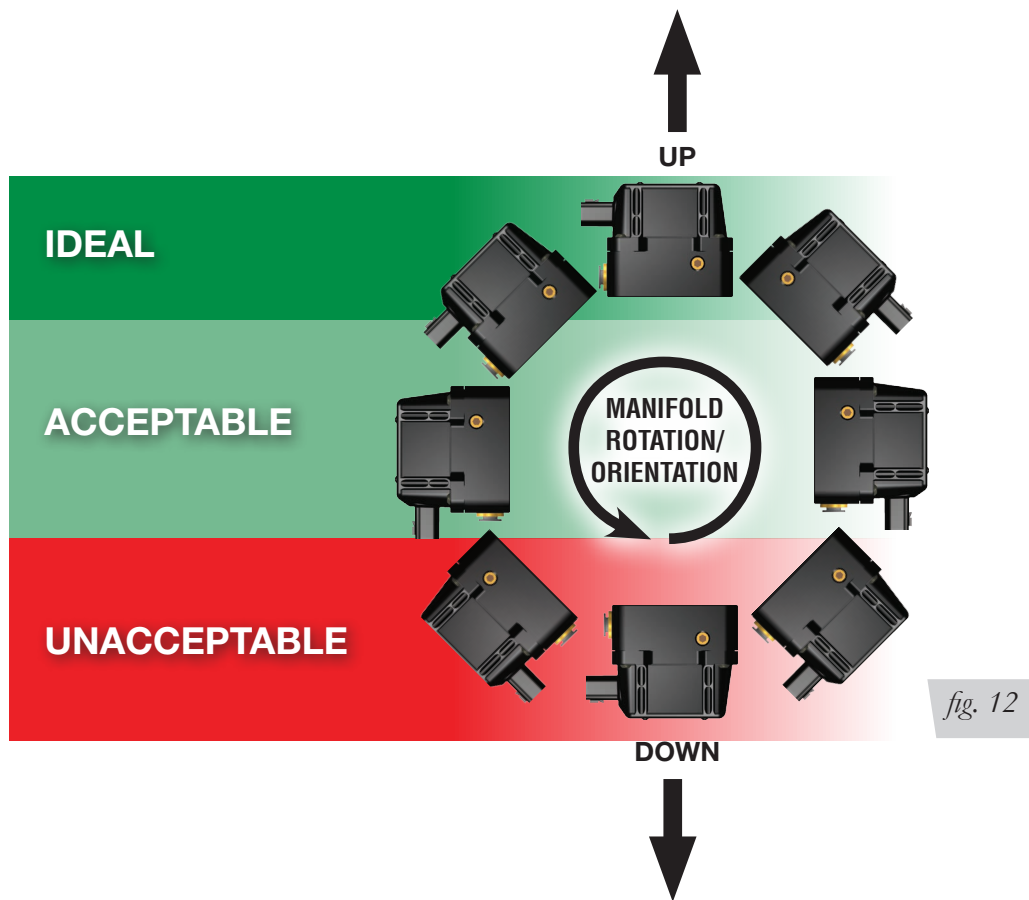

fig. 12
*When mounting the manifold, do so either horizontally or vertically, with ports and connector facing toward the ground. Do not mount the manifold upside down. Proper manifold mounting will help prevent water from settling in areas sensitive to freezing (fig. 12).*